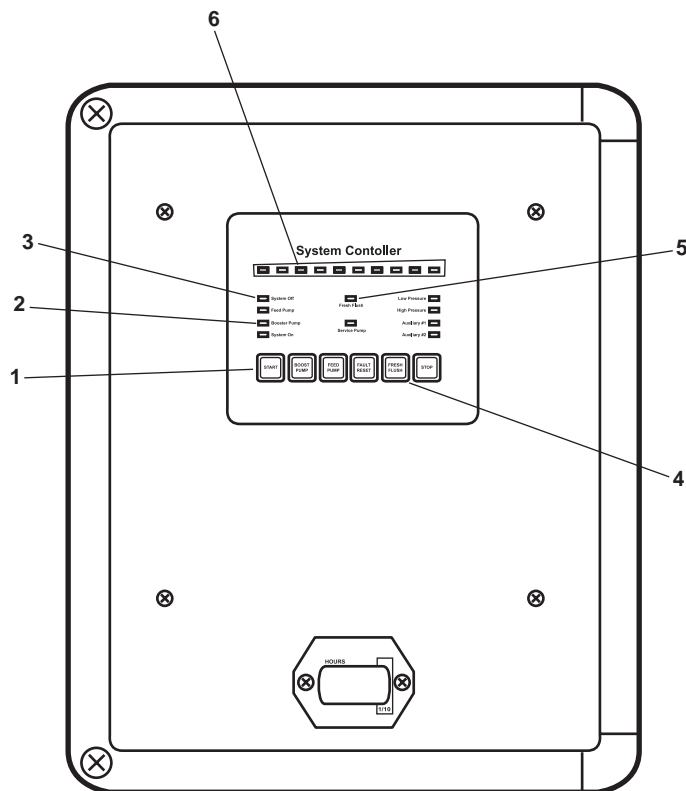

Figure 14. System Controller
- a. Press the STOP pushbutton (figure 14, item 1).
- b. Observe that the BOOSTER PUMP indicator (figure 14, item 2) goes out.
- c. Observe that the SYSTEM OFF indicator (figure 14, item 3) illuminates.
1. Ensure that both high pressure pumps are OFF by verifying that the SYSTEM OFF indicators (figure 14, item 3) are illuminated at the ROWPU 1 and ROWPU 2 system controllers.
- a. Verify that the SYSTEM OFF indicators (figure 14, item 3) are illuminated.
- b. Press the FRESH FLUSH pushbuttons (figure 14, item 4).
- c. Observe that the FRESH FLUSH indicators (figure 14, item 5) are illuminated.
- a. FRESH FLUSH (figure 14, item 5) indicators blinking occasionally.
- b. Verify that the SALINITY METER (figure 14, item 6) displays the number of days until next fresh water flush cycle.